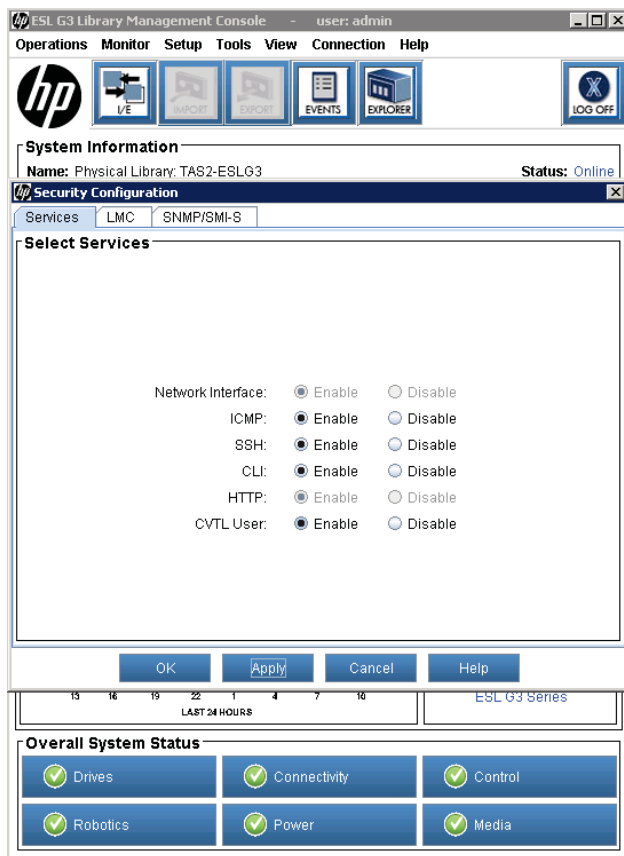

Figure 3. Enabling the CVTL User using the ESL G3 Library Management Console
4. Click on **OK** to update the settings. If an attention message is displayed, read the message and click on **Yes** to acknowledge the warning. See **figure 3** as an example.